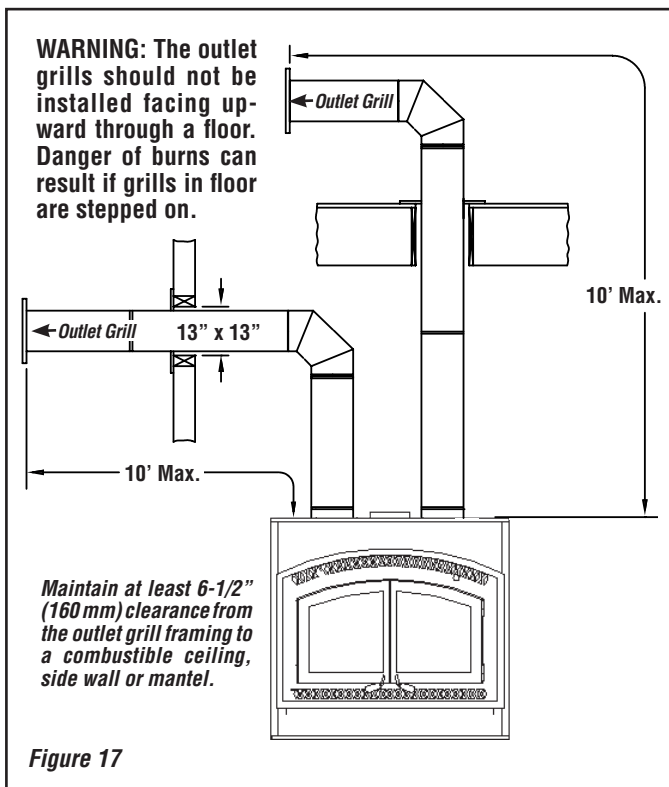

Figure 17
- Maximum length** See *Figure 17*
When installing the double outlet system, the hot air outlets can be installed in the same room as the fireplace, or one or both of the outlets can be installed in adjacent or upper rooms. Installing the ducts at different elevations will tend to exhaust more heat out of the higher outlet (Figure 17).